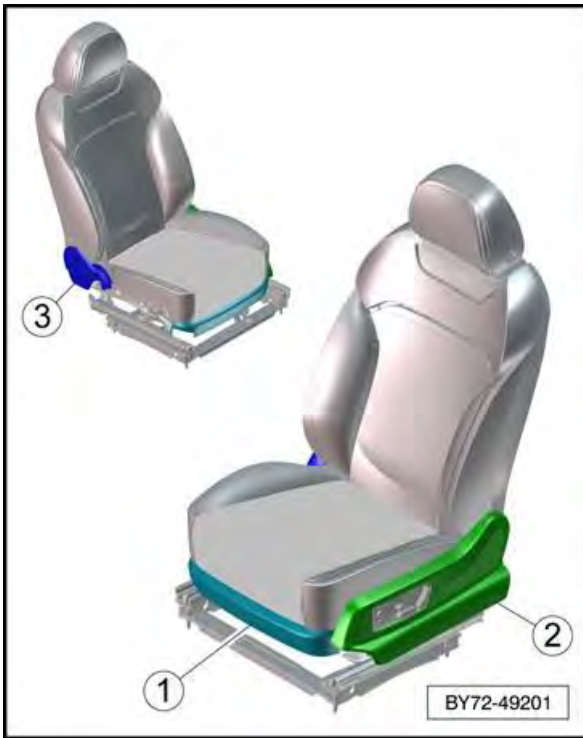

Figure 15
7. Remove sidevalance (2) (see Figure 15)
- Remove the inner valance (3) (see Figure 15)